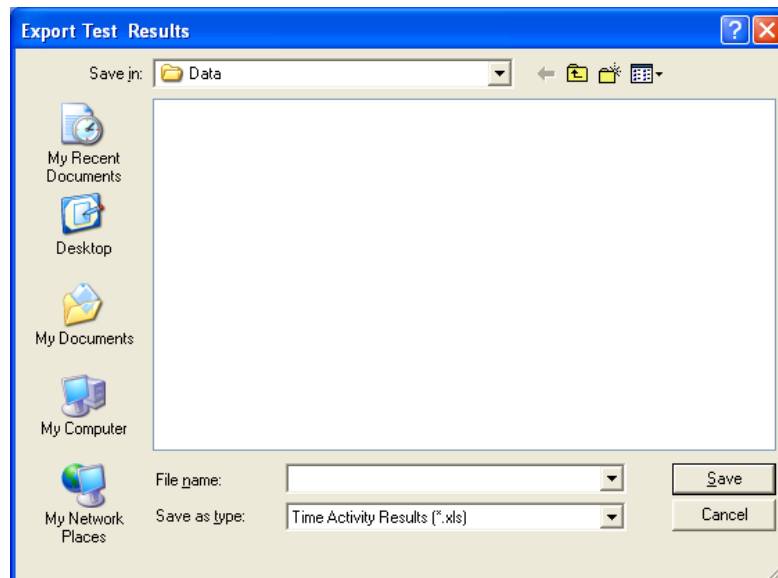

Figure 12-10
- b. If you click on **Export**, the screen appears as in Figure 12-10.